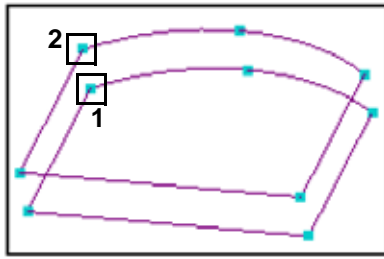

Figure 55: Band selecting the end of a curve to define coordinate
5. **Band-select** the location labeled 1 in Figure 55.
7. **Band-select** the location labeled 2 in Figure 55.